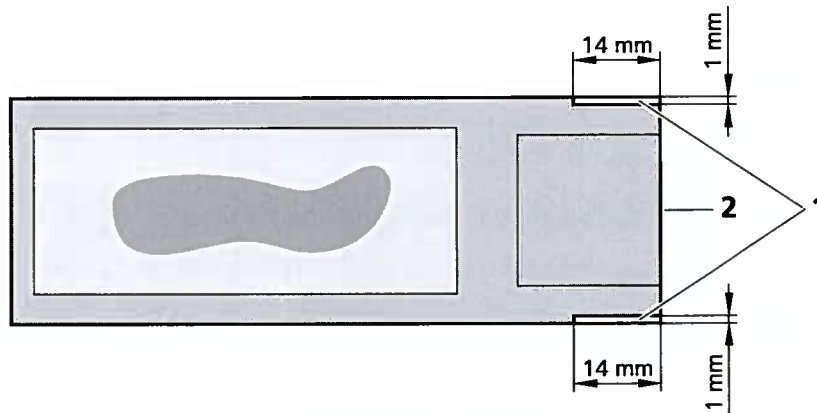

Fig. 4-1 Clamping zone of slide
- In the clamping area (marking area; Fig. 4-1/1) the maximum thickness of 1.3 mm should not be exceeded. Furthermore, no cover slips, labels or incompletely cured embedding mediums should be located in this area.
- Likewise, no cover slip or label, or any incompletely cured embedding medium should be projecting beyond the front edge of the slide (Fig. 4-1/2).
- Loosen the screws (2x wrench size 2.0) (Fig. 4-1/1) and move the fixed stop (Fig. 4-1/2) to the left as far as it will go.
- Insert the slide (Fig. 4-1/3) upright so that its right side contacts the spring-loaded catch (Fig. 4-1/4).
- Move the fixed stop (Fig. 4-1/2) to the right until it stops at the slide (Fig. 4-1/3).
- Retighten the screws (2x wrench size 2.0) (Fig. 4-1/1).